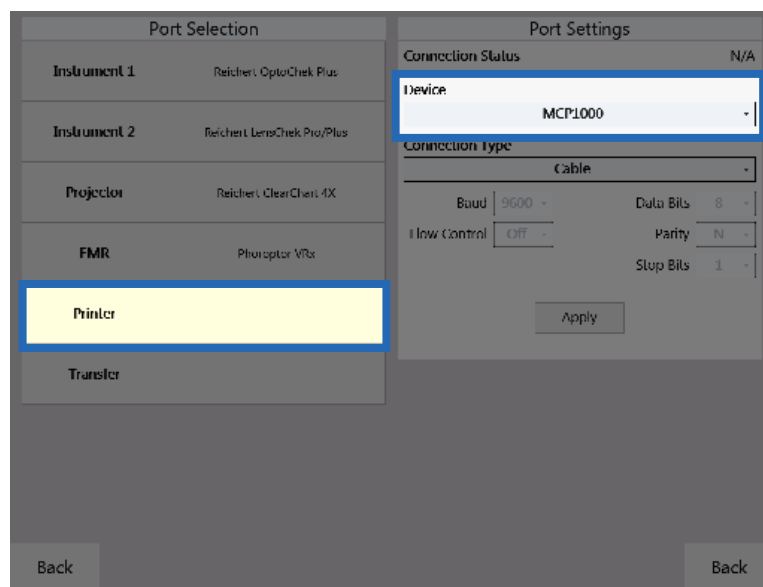

Figure IS-27, Printer Settings
3. In the Port Selection panel, tap **Printer**. Refer to Figure IS-27.
4. In the Port Settings panel, select the MCP1000. Refer to Figure IS-27.